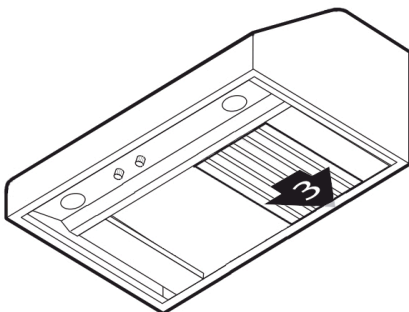

FIGURE 18: INSTALL THE STAINLESS STEEL BAFFLES – PART C
- c. Slide the baffle filter backward clearing the catch and rest securely on back edge of hood (FIGURE 18).